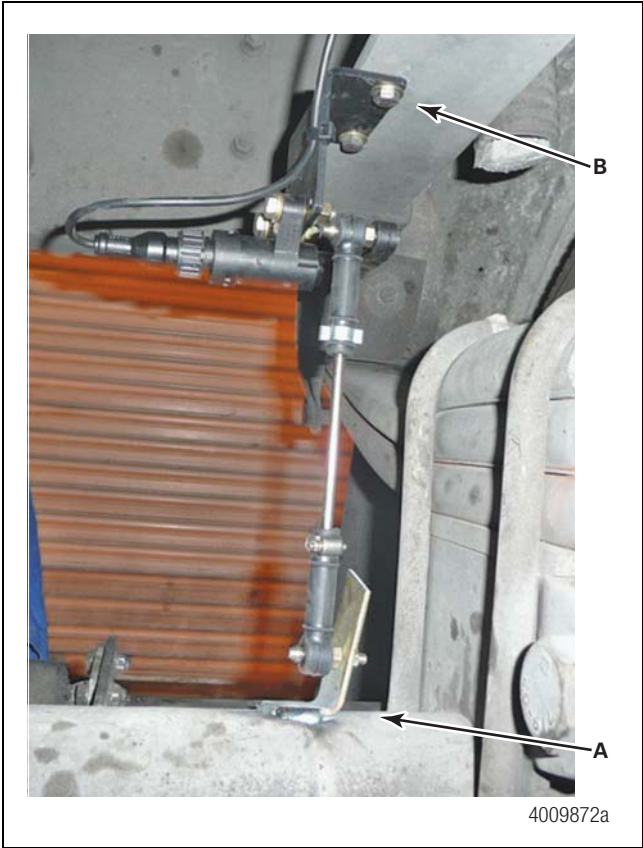

Figure 39
1. With the trailer **unloaded**, measure from the top of the axle tub (A) to a fixed point (B) on the underside of the trailer. Note the distance. Figure 39.